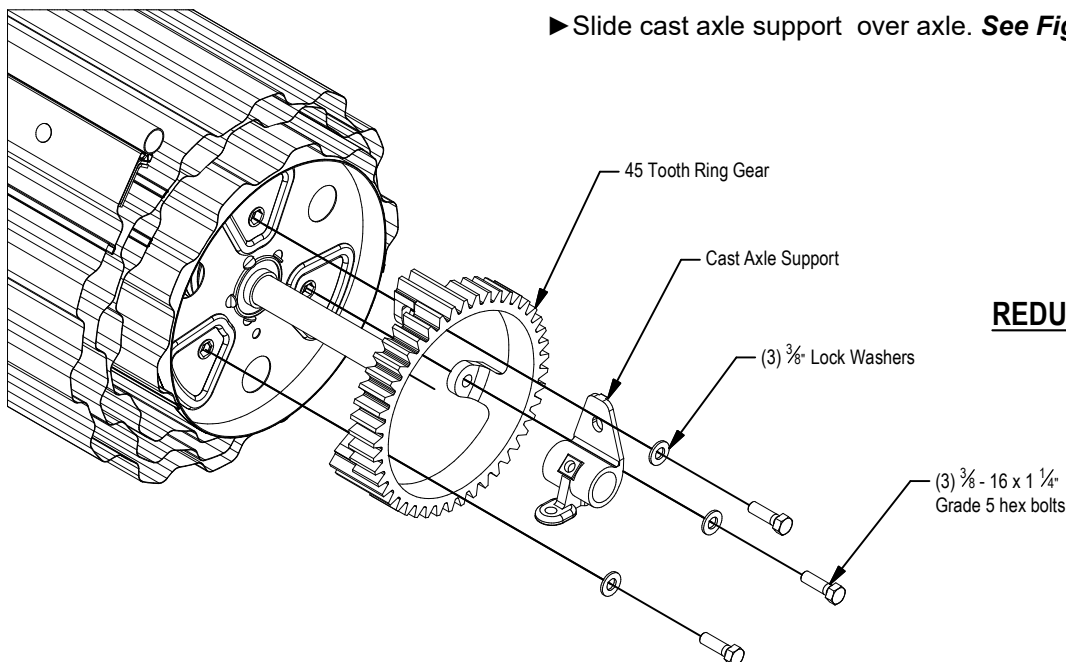

FIGURE 15:
► Fasten 45 tooth cast ring gear to drum using three (3) each $\frac{3}{8}$ - 16 x $1\frac{1}{4}$ " grade 5 hex bolts and $\frac{3}{8}$ " lock washers.
► Slide cast axle support over axle. **See Figures 15.**